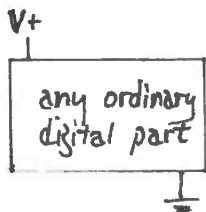

Figure 14L.1
3. Power all your circuits from +5V. and ground only – until we reach the CPLDs¹ or PALs,² some of which are powered with 3.3V instead. This applies equally to CMOS (in its traditional 5V form³) and to TTL. Power and ground pins on ordinary digital parts (not complex ICs like PALs and microcontrollers) are the diagonally-opposite corner pins, as in Fig. 14L.1.